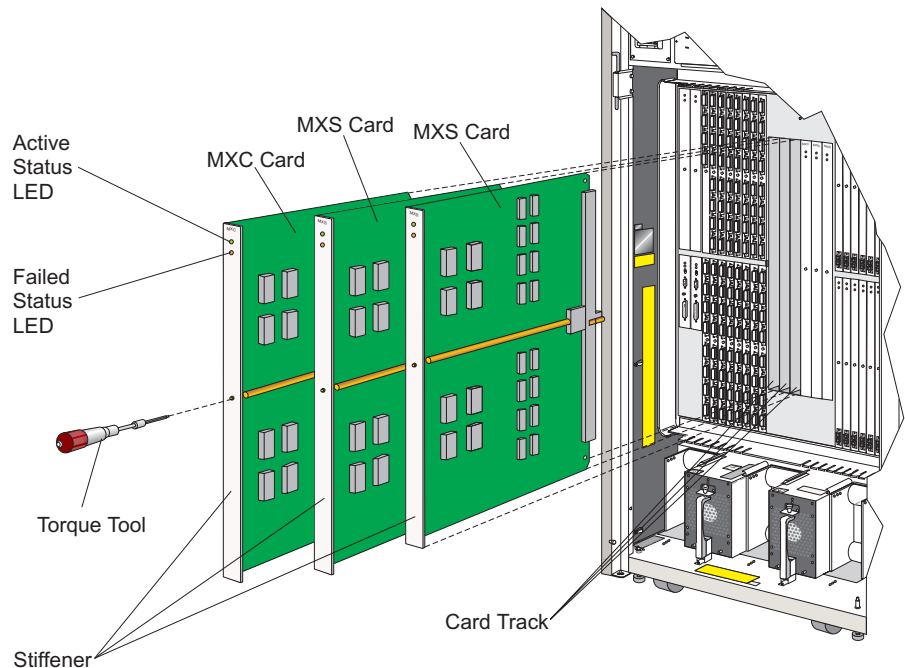

Figure 3-12. Matrix Controller (MXC) and Matrix Switch (MXS) Cards, Redundant
Use the following procedure to remove an MXC or MXS card from a **redundant** logic card unit. Refer to Figure 3-12.
Use the following procedure to replace an MXC or MXS card within a **redundant** logic card unit. Refer to Figure 3-12.
1. Holding the MXC or MXS card by the top and bottom of its stiffener, carefully insert it straight into its card track (refer to Figure 3-12). Note that the label identifying the MXC or MXS card should be at the top and the component side of the card should face to the right.